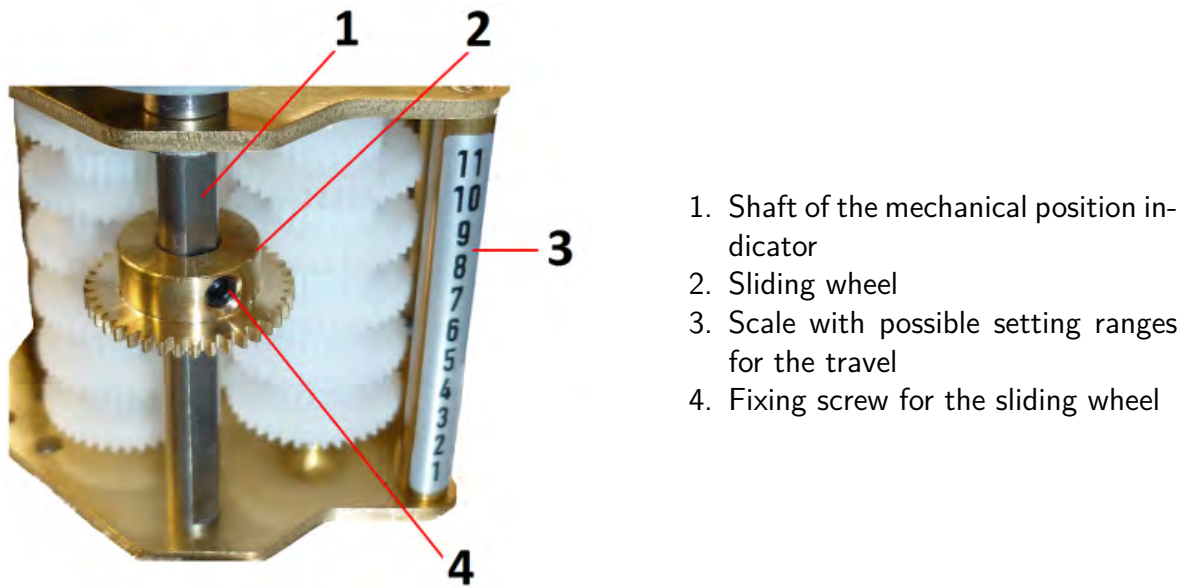

Figure 9.4: Reduction gearing
To reset the reduction gearing according to table 9.1, loosen the fixing screw item 4 in figure 9.4. After unfastening the screw, the sliding wheel can be moved up (smaller angle for the mechanical position indicator) and down (larger angle for the mechanical position indicator). As soon as the new position of the sliding wheel has been reached, fasten the fixing screw.